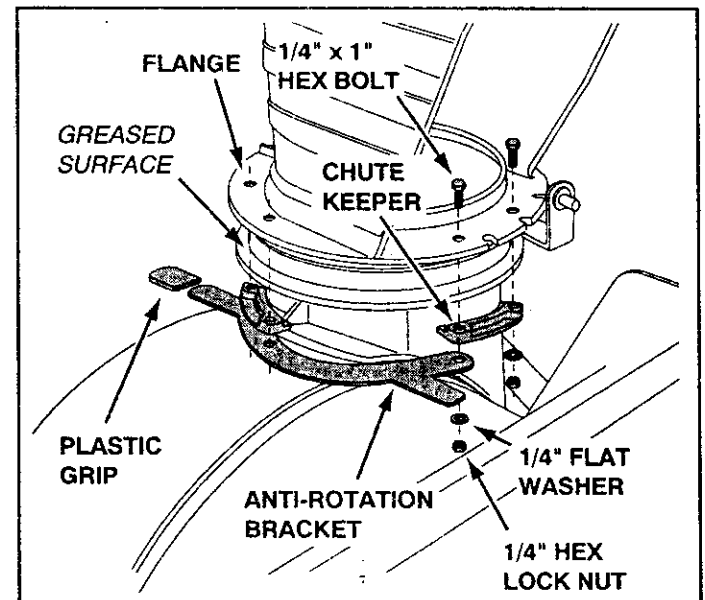

FIGURE 14 RIGHT FRONT CORNER VIEW
- Coat the top of the ring around the discharge opening with general purpose grease. See figure 14.
- Attach the three chute keepers (right side up as shown in figure 14) and the anti-rotation bracket to the bottom of the chute flange. Use six 1/4" x 1" hex bolts, 1/4" flat washers and 1/4" hex lock nuts. **Tighten carefully** so that the plastic parts are not deformed. See figure 14.
- Place the plastic grip onto the back end of the anti-rotation bracket. See figure 14.